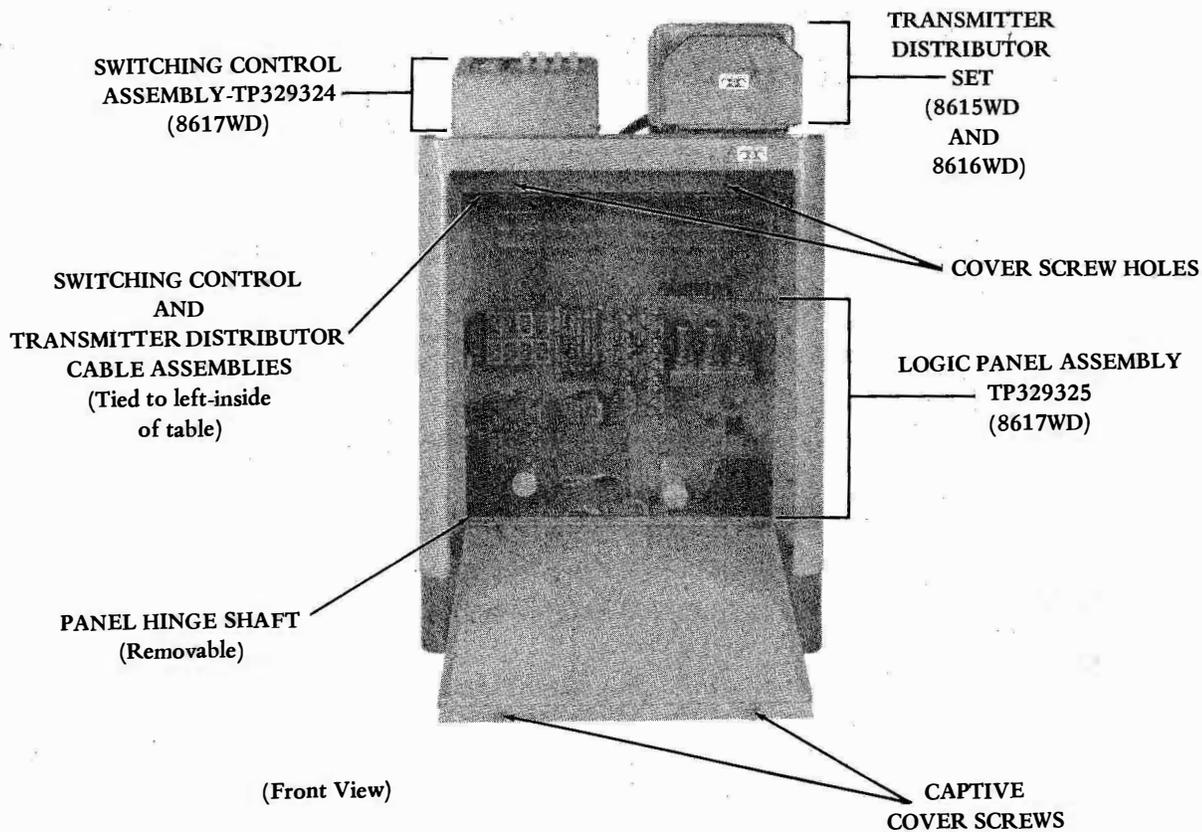

Figure 2 - Manual Message Address Segregator with Cover Panel Open
- 2.07 Take up the slack of the three cables inside the table. Dress and tie the cables to the left bracket so that they do not interfere with relays on the logic panel (Figure 2).